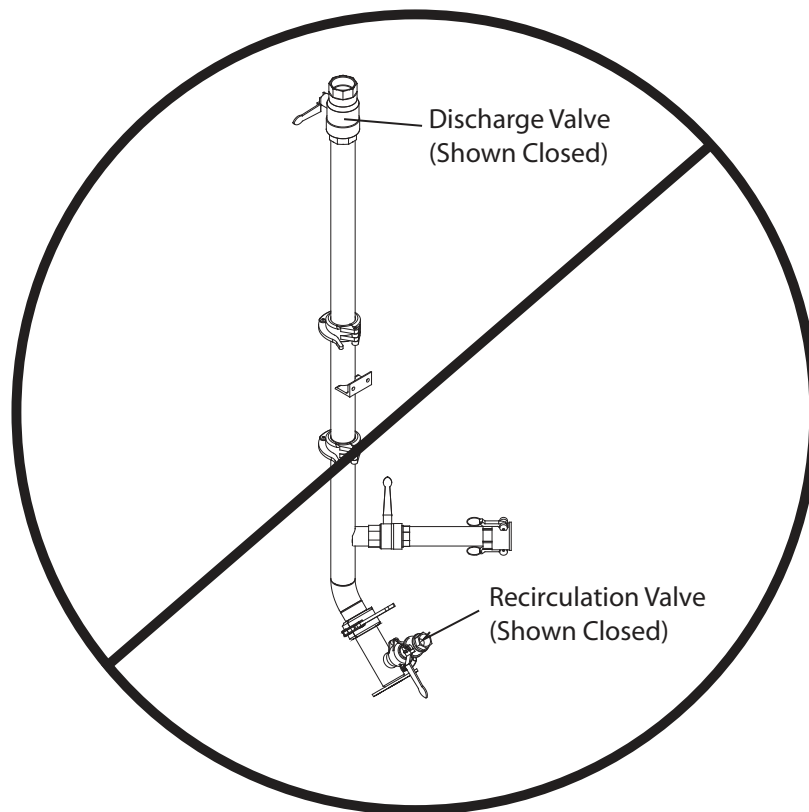

Figure 1
- 1. Discharge hoses: Discharge hoses are available in 50 ft. (15 m) and 100 ft. (30 m) lengths up to a total of 150 ft. (45 m). Hose of a greater length may adversely affect the discharge distance, and the discharge time of the HydroSeeder®. All connections are camlock quick operating fittings, including the connection to the end of the discharge piping. A nozzle is connected to the end of the hose next to the remote discharge valve. Once the hose is connected, the HydroSeeder® is ready to operate. Flow through the hose and the nozzle is controlled by the remote discharge valve. When using this valve, the recirculation valve on the HydroSeeder® **MUST BE OPEN** to allow flow at times when the remote valve is closed. See Figure 1 on page 10.
WARNING: Never engage the slurry pump clutch when both valve handles are positioned as shown Figure 1. Both valves are closed and will result in extreme heat generation that will cause damage or bodily injury if the slurry pump is running.